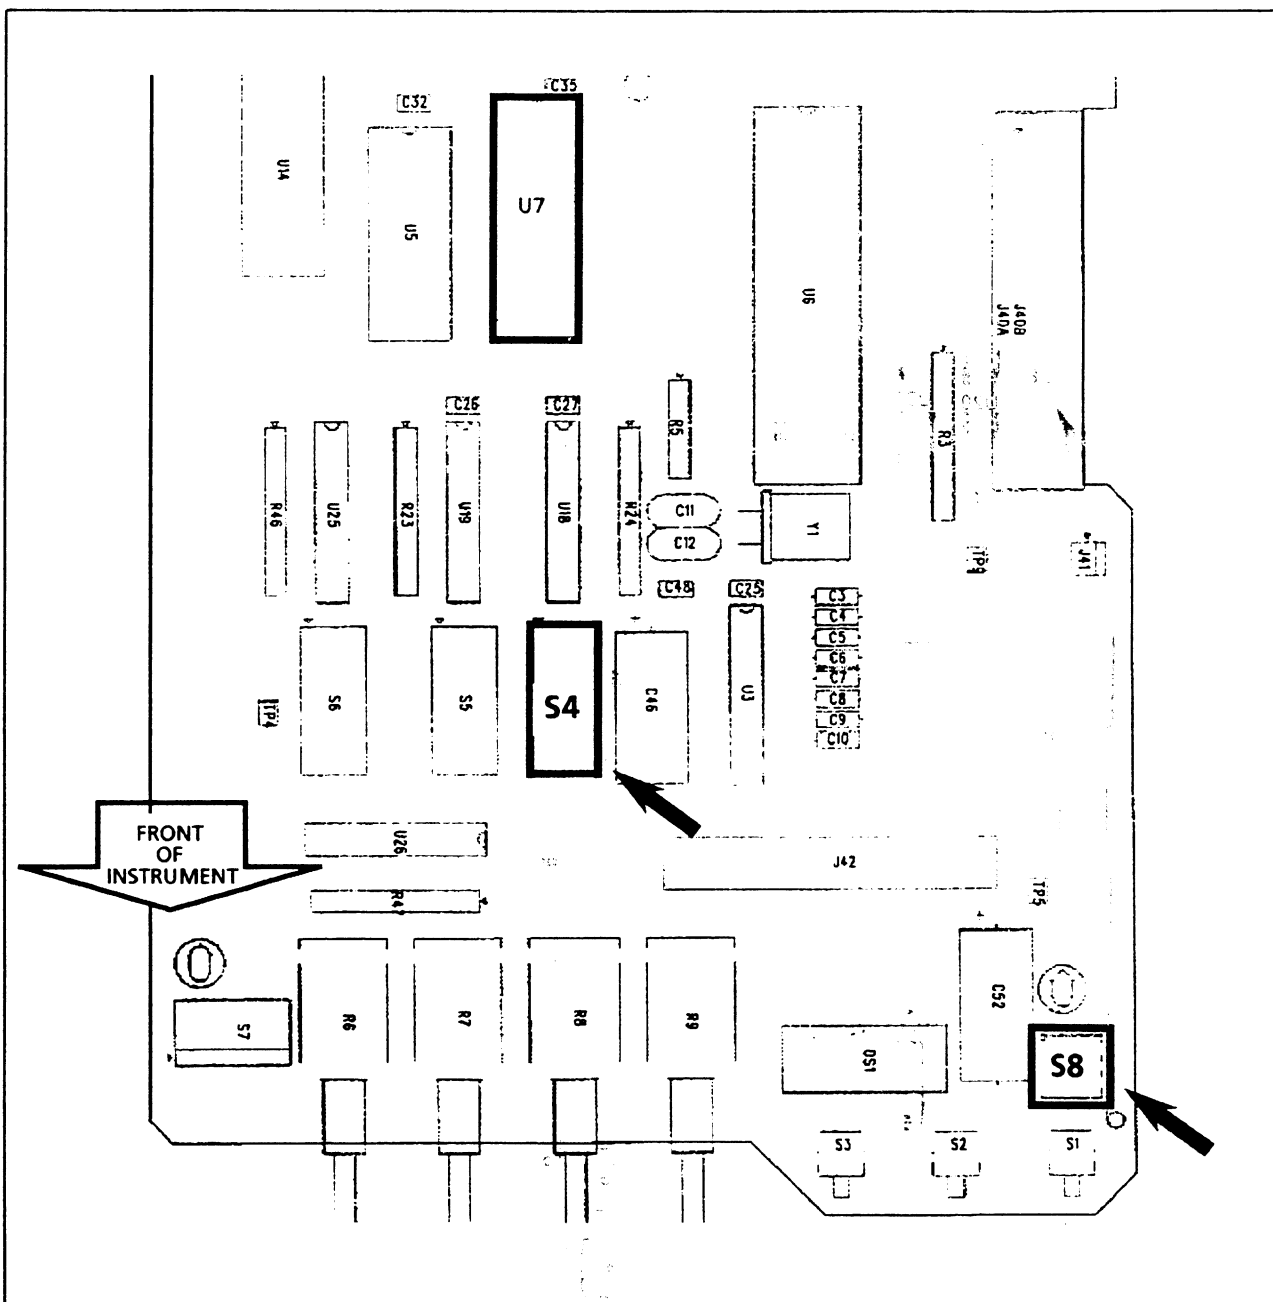

Fig. 6. Partial Remote Control circuit board (A6) showing location of U7, S4 and S8.
- a. Replace U7. Refer to fig. 6 for component locations.